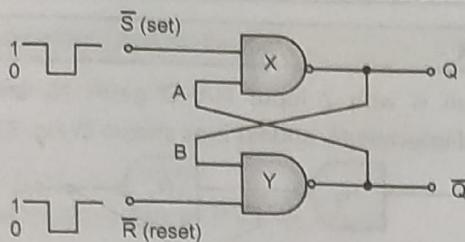

Fig. 3.9 : SR Latch using NAND gate
- This device consists of two inputs, one called the Set, S and the other called the Reset, R with two corresponding outputs Q and its inverse or complement \bar{Q} (not-Q) as shown below in Fig. 3.9.